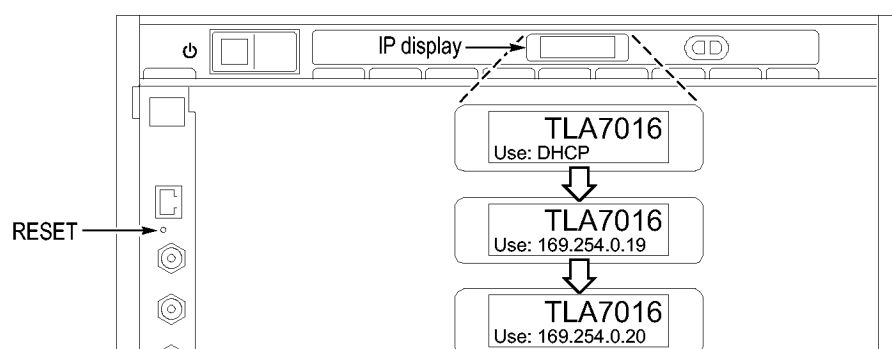

Figure 3: Setting the IP address
1. Press and hold the reset button on the TLA7016 Interface Module. (See Figure 3.)
7. On the TLA7016 Interface Module, press and hold the RESET button until the IP address 169.254.0.19 shows in the TLA7016 front panel display. (See Figure 3 on page 9.) The front-panel display cycles every 2-3 seconds to the next preset address. (See Table 7 on page 9.)